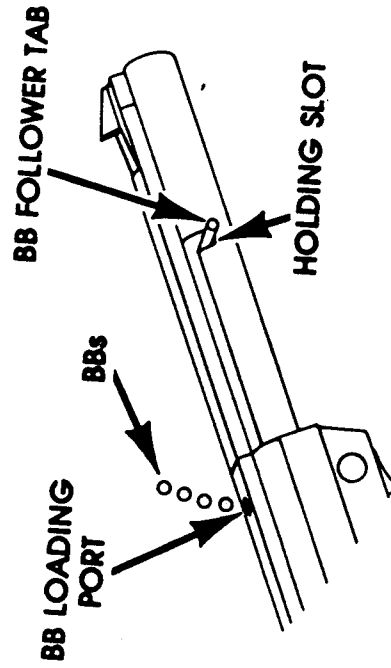

FIG. 5
- B. Push BB Follower Tab forward and hook in slot. (Fig. 5)